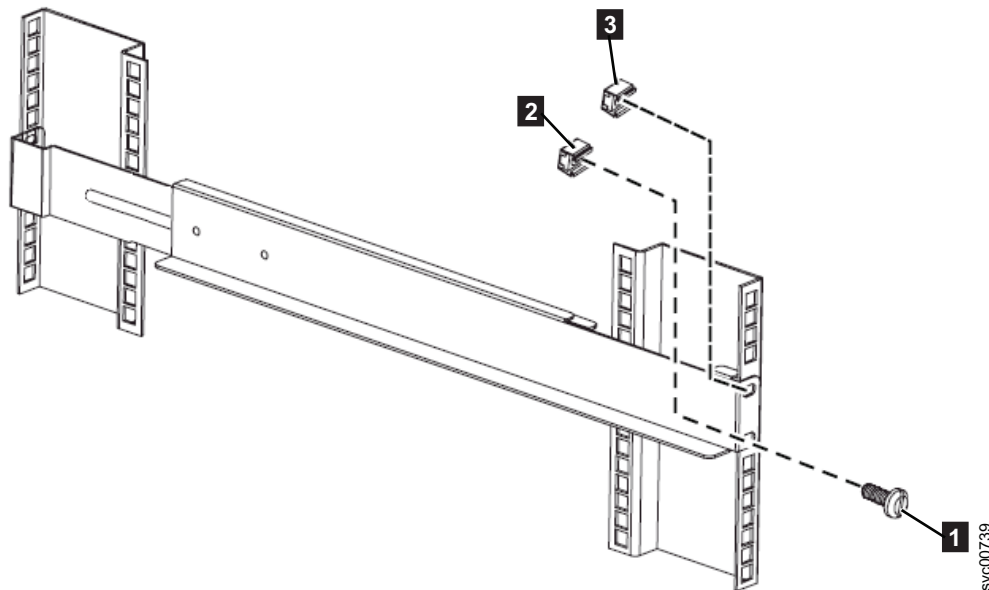

Figure 11. Attaching the front of the 2145 UPS-1U rail to the rack.
7. Install 2 clip nuts **2** and **3** to the front of the rack. Then attach the rail using just 1 M6 x 10 screw **1** in the bottom mounting hole as shown in Figure 11 on page 19.